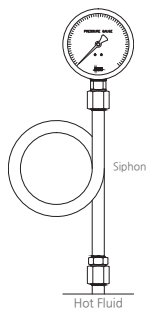

Figure 2
- 2) For a remote seal type pressure gauge, a remote seal must be installed on the same line as the pressure gauges is installed. If this is not the case, then Zero adjustment process must be performed on the gauge. (Figure 2)
- 3) If the gauge is dealing with a high temperature fluid, then Syphon tube is required so the adequate temperature can be delivered to the gauge. (Figure 2)